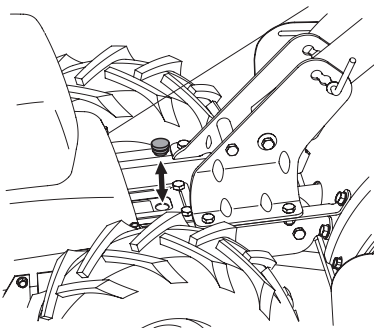

Figure 15
3. Remove the oil fill plug from the transmission housing and look inside the oil fill hole to locate the main drive shaft situated below the hole. See Figure 15.